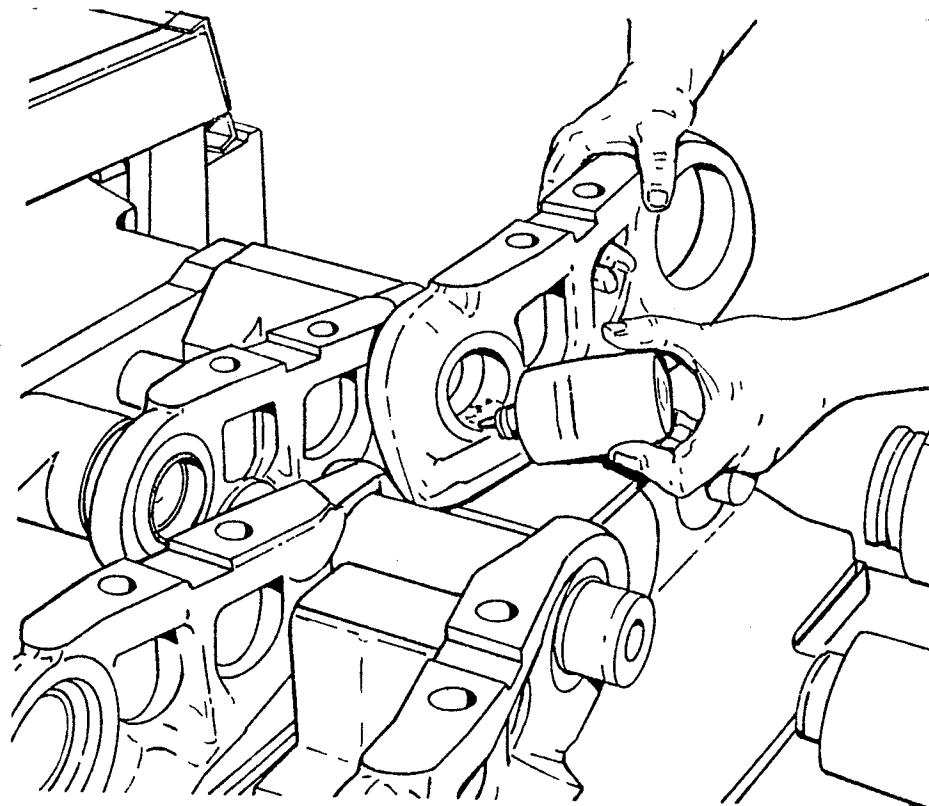

FIGURE 5
9. Install seals and spacers in the counterbore of the next track links and apply Loctite 640 #1140865C1 (250 ml. bottle) sparingly in the outer half of the pin bore of the links as shown in Figure 5. Position the links on the press assembly adapters.